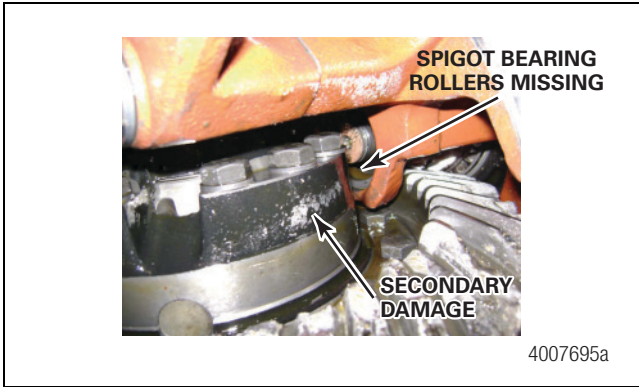

Figure 4.66
**Primary Damage:** The spigot bearing is damaged or broken in pieces. The bearing rollers are deformed or dislodged. Figure 4.65. Closer examination reveals spalling present on the bearing surfaces. The differential case also shows secondary damage from contact with loose parts. Figure 4.66.